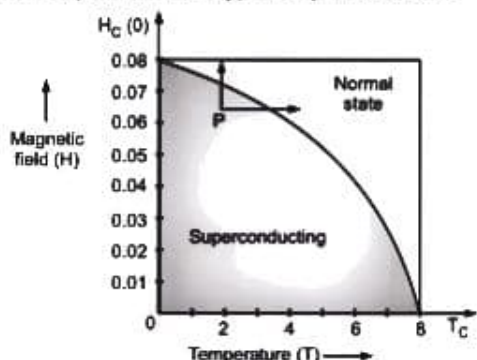

Fig. 5.9
- The relation between superconductivity and magnetic field plays an important role in the study of properties of superconductors. Obviously, the value of H_c varies with temperature. Fig. 5.9 shows the variation of H_c with temperature for a typical superconductor.
- From Fig. 5.9, consider point P, where the temperature and the magnetic field are within the shaded region, the metal is in the superconducting state. On increasing either the temperature or the field, it can be driven into the normal state. Hence, it can be seen that a superconductor has two possible states: (i) The superconducting one which is resistanceless and perfectly diamagnetic and (ii) A normal state which is the same as a normal metal.